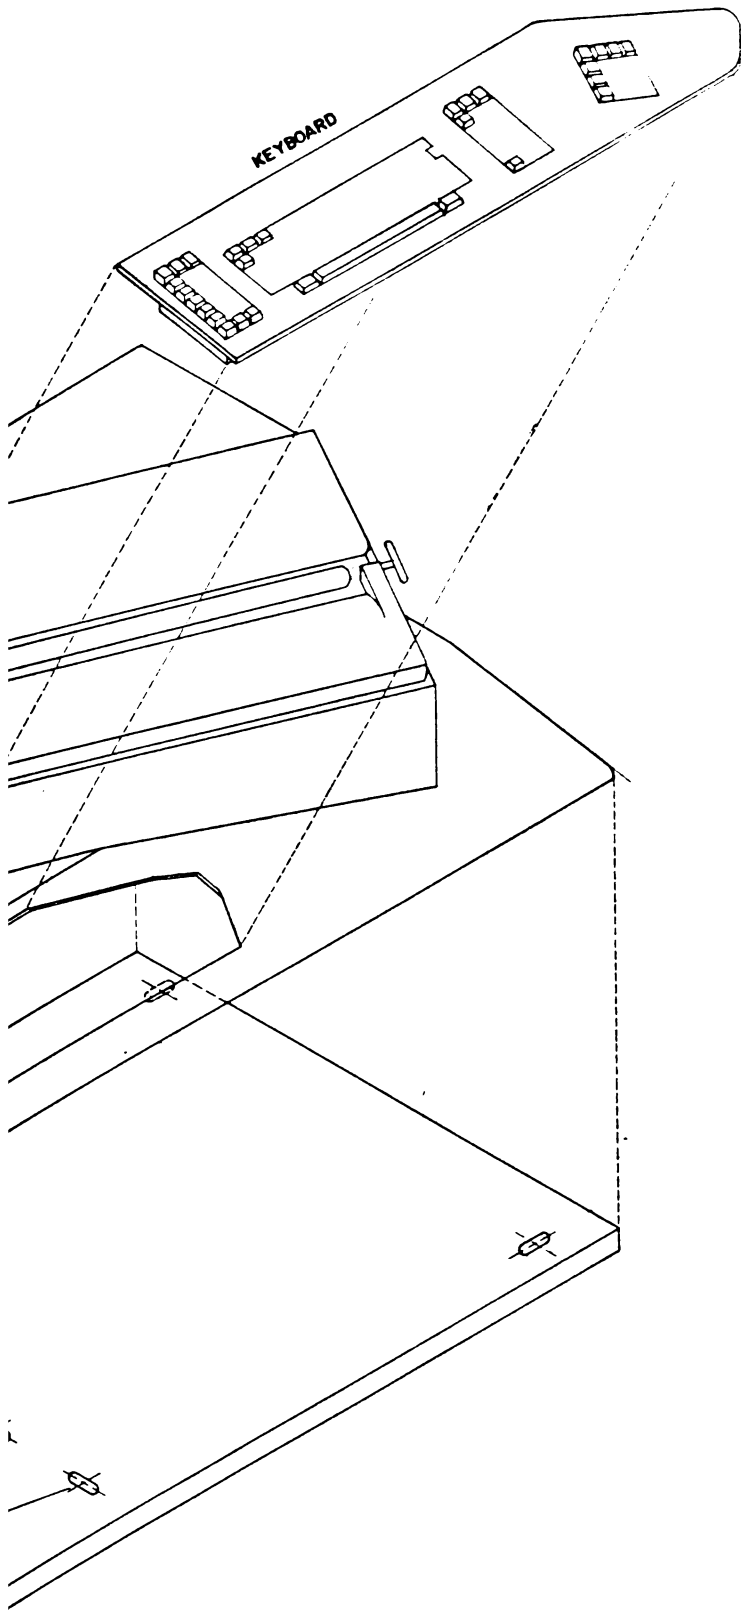

FIGURE 1
HOUSING: The housing as shown in Fig.1, consists of three main parts: The outer chassis, the inner chassis and the base. All are made of steel. This protects the electronic components from static discharge, radiation from sources of noise, and allows the unit to run without a fan, because of its excellent heat dissipation. Disassembly of the housing is described at the end of this section.
E. HOUSING ASSEMBLY: Assembly and disassembly of the unit is easily accomplished. All that is required is a screw driver. Figure 1 shows an exploded view of the unit. the keyboard subassembly, the inner chassis, the outer chassis, the base, the stand, and the printer all may be easily removed from each other for individual testing and service. The keyboard and printer must be removed before the removal of the outer chassis.